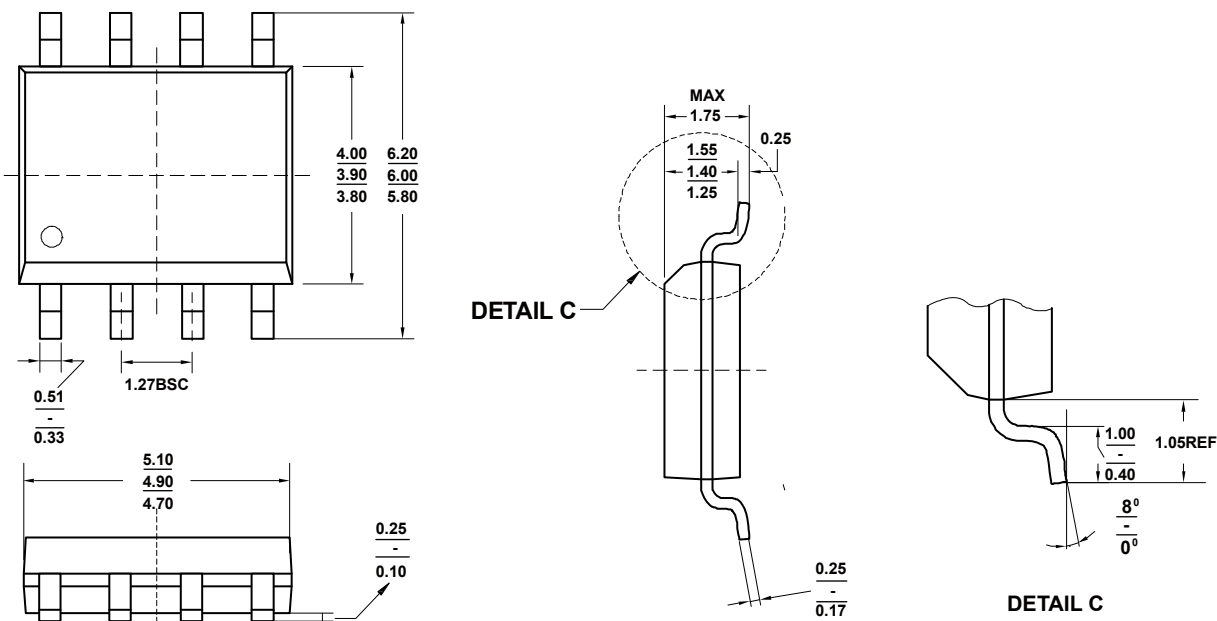

Figure 40. 8-Lead SOIC Package Dimensions shown in millimeters
- Place the external components as close to the device as possible. As illustrated in Figure 40, keeping R_F , R_G and C_F close to the inverting input minimizes parasitic capacitance.